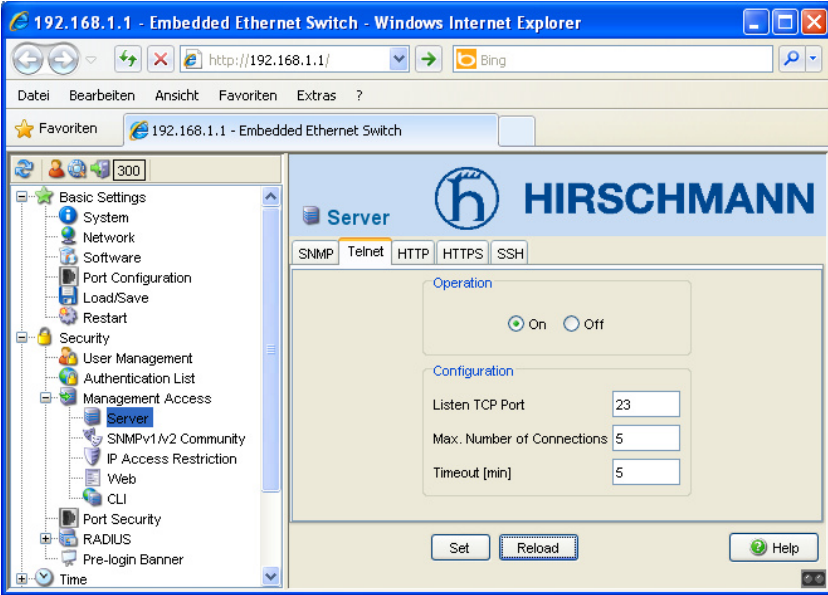

Figure 2-6: Unlock Telnet session
- Using the menu tree open, Security: Management Access: Server: Telnet, as seen in Figure 2-6 below.